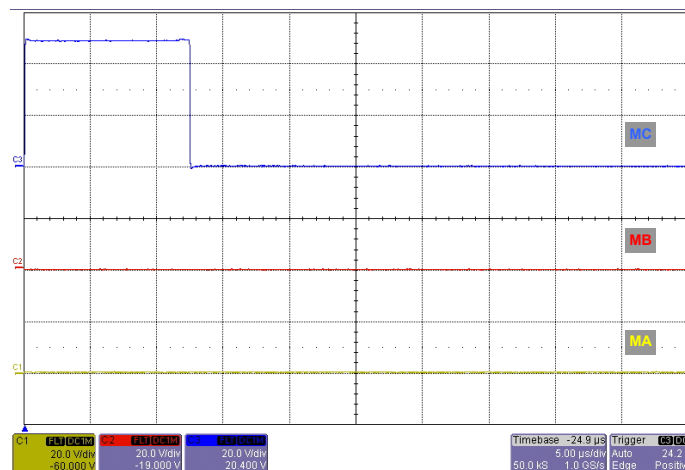

Figure 7. Waveforms on MA, MB, and MC with HC Grounded
- While the **HC** input is grounded, observe the following waveforms on the MA, MB, and MC terminals. As the example in Figure 7 shows, there should be no switching disturbances on MB and MA.